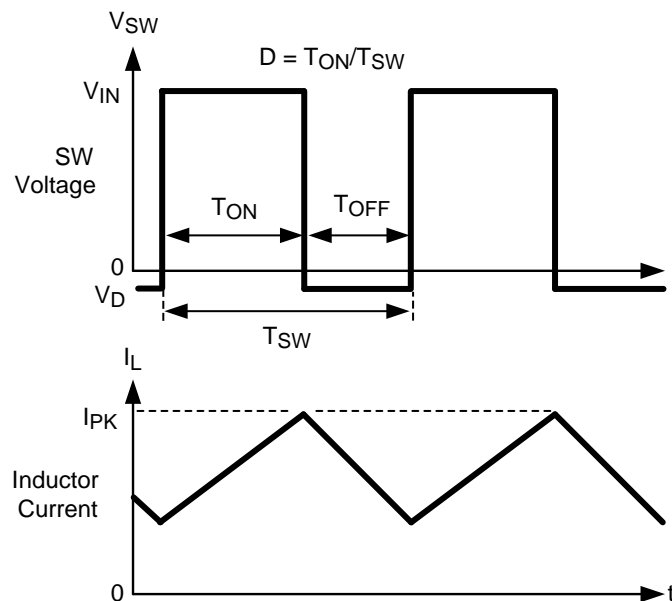

Figure 28. LM2738 Waveforms of SW Pin Voltage and Inductor Current
The following operating description of the LM2738 will refer to the Simplified Block Diagram (Figure 27) and to the waveforms in Figure 28. The LM2738 supplies a regulated output voltage by switching the internal NMOS control switch at constant frequency and variable duty cycle. A switching cycle begins at the falling edge of the reset pulse generated by the internal oscillator. When this pulse goes low, the output control logic turns on the internal NMOS control switch. During this on-time, the SW pin voltage ( $V_{SW}$ ) swings up to approximately  $V_{IN}$ , and the inductor current ( $I_L$ ) increases with a linear slope.  $I_L$  is measured by the current-sense amplifier, which generates an output proportional to the switch current. The sense signal is summed with the regulator's corrective ramp and compared to the error amplifier's output, which is proportional to the difference between the feedback voltage and  $V_{REF}$ . When the PWM comparator output goes high, the output switch turns off until the next switching cycle begins. During the switch off-time, inductor current discharges through Schottky diode D1, which forces the SW pin to swing below ground by the forward voltage ( $V_D$ ) of the catch diode. The regulator loop adjusts the duty cycle (D) to maintain a constant output voltage.
In the Simplified Block Diagram of (Figure 27), capacitor  $C_{\text{BOOST}}$  and diode D2 supply the gate-drive voltage for the NMOS switch. Capacitor  $C_{\text{BOOST}}$  is charged via diode D2 by  $V_{\text{IN}}$ . During a normal switching cycle, when the internal NMOS control switch is off ( $T_{\text{OFF}}$ ) (refer to Figure 28),  $V_{\text{BOOST}}$  equals  $V_{\text{IN}}$  minus the forward voltage of D2 ( $V_{\text{FD2}}$ ), during which the current in the inductor (L) forward biases the Schottky diode D1 ( $V_{\text{FD1}}$ ). Therefore the voltage stored across  $C_{\text{BOOST}}$  is